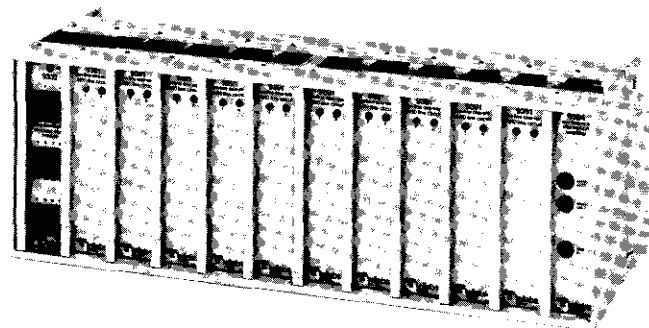

figure 1. 293 One-Way Alerting System
1.01 The Tellabs 293 One-Way Alerting System (figure 1) is a multistation ringdown telephone circuit used in emergency-alerting applications. With the 293 System, large numbers of people can be simultaneously alerted via their telephones when emergencies such as fires, industrial accidents, or threatening weather conditions occur. Thus, the 293 System can serve small communities, hotels, motels, apartment buildings, condominiums, high-rise buildings, hospitals, department stores, shopping malls, schools, campus facilities, factories, chemical and nuclear facilities, and numerous other applications where personnel require immediate notification of emergency and/or evacuation procedures when disaster threatens or strikes.